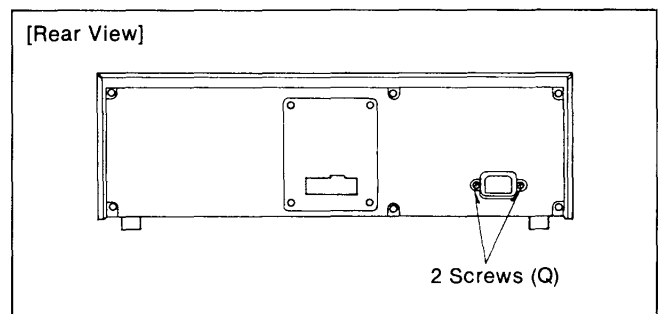

Figure D16
1. Unscrew the 2 screws (Q) on the Rear Panel (Figure D16).